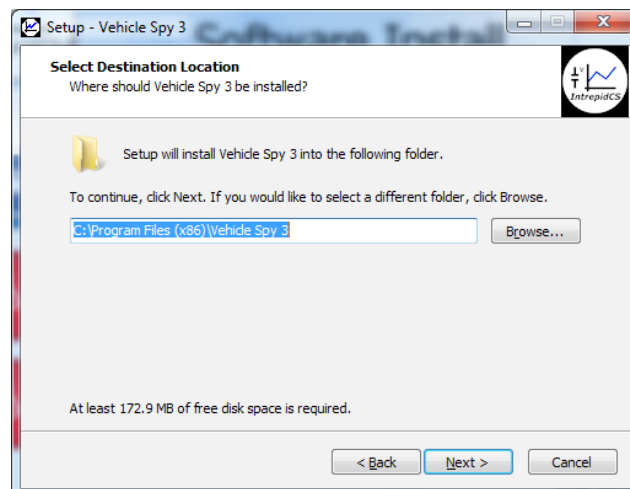

Figure 7: Choosing the Destination Location.
7. **Select Destination Location:** Choose where you want to install Vehicle Spy 3 (Figure 7). We normally recommend using the default location. Click .